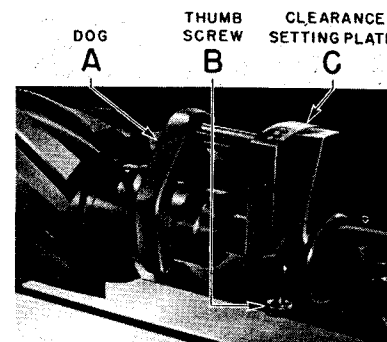

Figure 25A
**Clearance Setting Dials and Dog.** The clearance setting device for the left hand tailstock, illustrated in Figure 25A, must be set in conjunction with dog A. Clamp the dog to the mandrel, on which the cutter is mounted, with the pin inserted in the hole in the clearance setting plate. Loosen thumb screw B, rotate the cutter to the desired clearance as indicated by the graduations at C, then tighten the thumb screw and remove the setting dog. This device is employed when using a cup wheel.